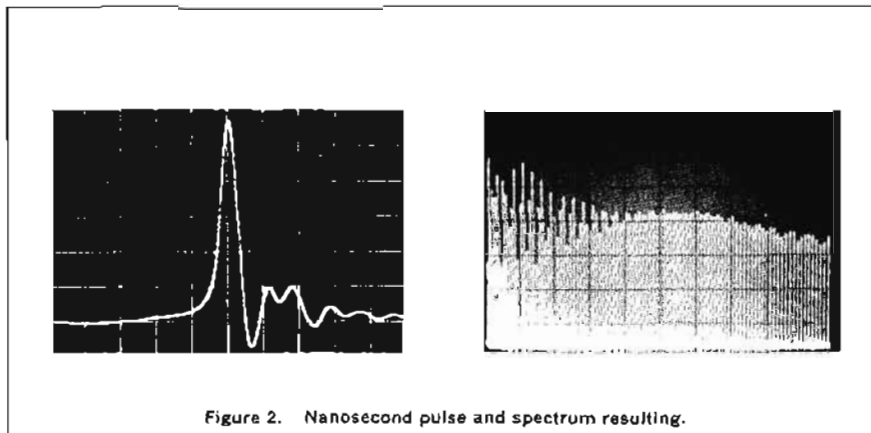

Figure 2. Nanosecond pulse and spectrum resulting.
Fast rising, short duration pulse waveforms in the nanosecond region can be generated by semiconductor diodes driving a shorted transmission line. Often, it is desirable to obtain a uniform output across large segments of the spectrum with such devices (Figure 2). With the broad frequency display and flat amplitude response of the 851B/8551B, it is a simple task to measure narrow, fast rising pulse spectra and make adjustments for discontinuities in the generating system.
swept local oscillator (LO) followed by a 2 GHz first IF amplifier. Sweeping the first local oscillator allows use of fixed tuned, narrow-band IF amplifiers throughout the analyzer, which eliminates the sources of spurious signals found in other spectrum analyzers. The high frequency first IF spaces images 4 GHz apart and therefore image signals do not clutter the display. The combination of a 2-4 GHz swept LO and a 2 GHz first IF provides low frequency coverage down to 10.1 MHz. When the LO is set to 2 GHz, the LO feeds directly through the IF and can serve as a signal source to perform self-checks on the analyzer's performance and calibration. Figure 2 illustrates the use of the 2-GHz spectrum width in the evaluation of a frequency doubler.